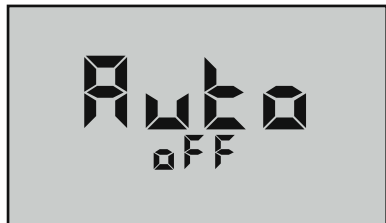

Figure 24
3. Press  repeatedly until you pass the CELL ch location. The display will show “Auto OFF” (Figure 24).